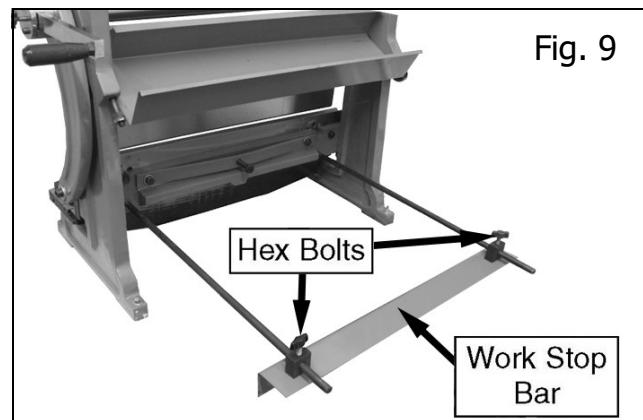

Fig. 9
7. Position the stop bar as required and secure using the hex bolts as shown in Figure 9.